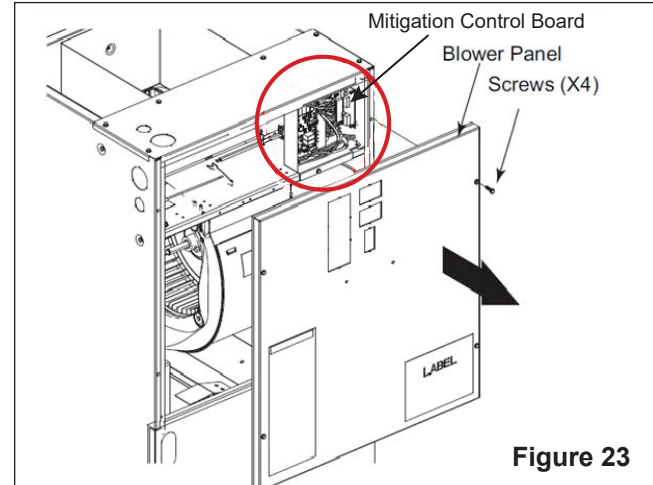

Figure 23
3. Route the RED 24V wire from the ACCES control harness to the location of the mitigation control board in the system. The location of the mitigation control board is shown in Figure 23.